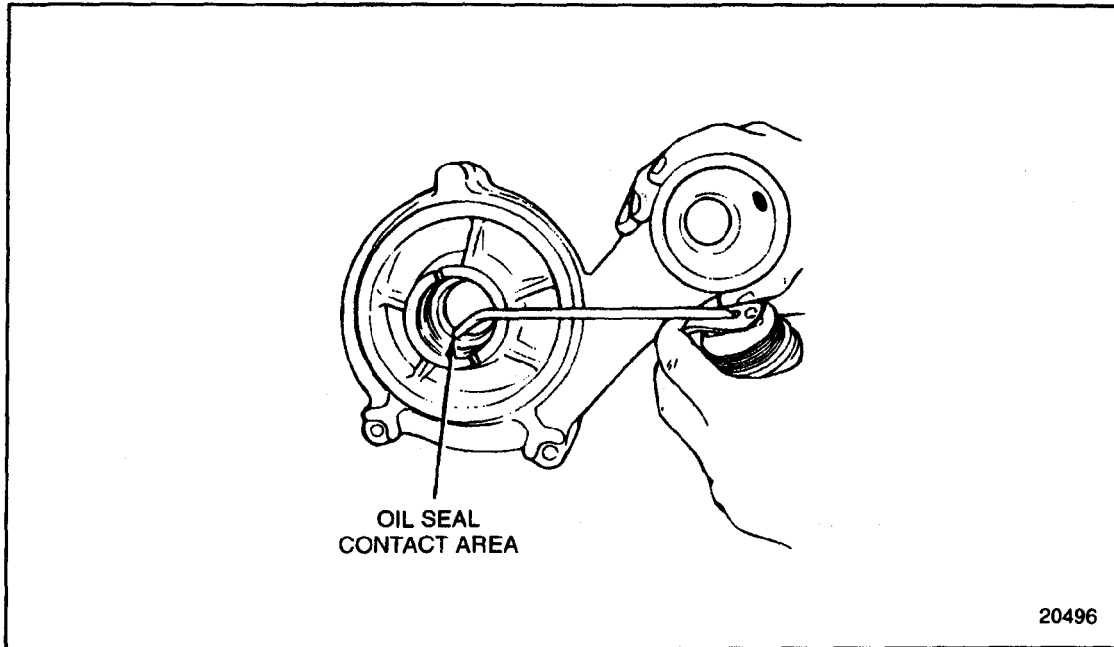

Figure 4-48 Oil Seal Contact Area Lubrication (FM)
1. Coat the new oil seal contact area of the water pump housing with a thin film of clean engine oil. See Figure 4-48.